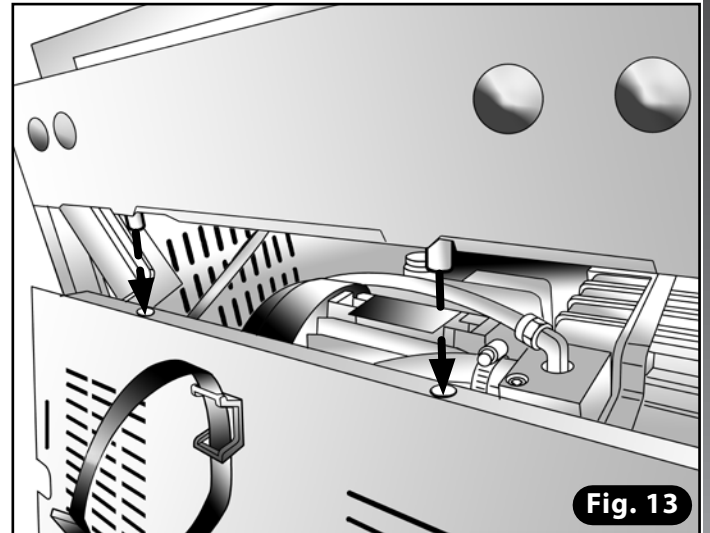

Fig. 13
- 19) Reposition the back panel making sure it is aligned at the top with the protruding parts of the hinge pivots (Fig. 13). Lastly, fasten the screws on the back panel (Fig. 14).